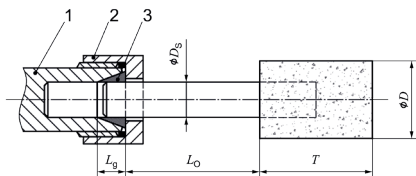

Fig. 1 - Clamping length of chuck and collet
- Bear in mind that the maximum speed for small grinding wheels must be lowered due to the greater length of the shaft between the chuck end and the small grinding wheel (overhang). Compliance with the minimum clamping length of 10 mm must be ensured. (See Figure 1 and the recommendations of the manufacturer of small diameter wheels.)